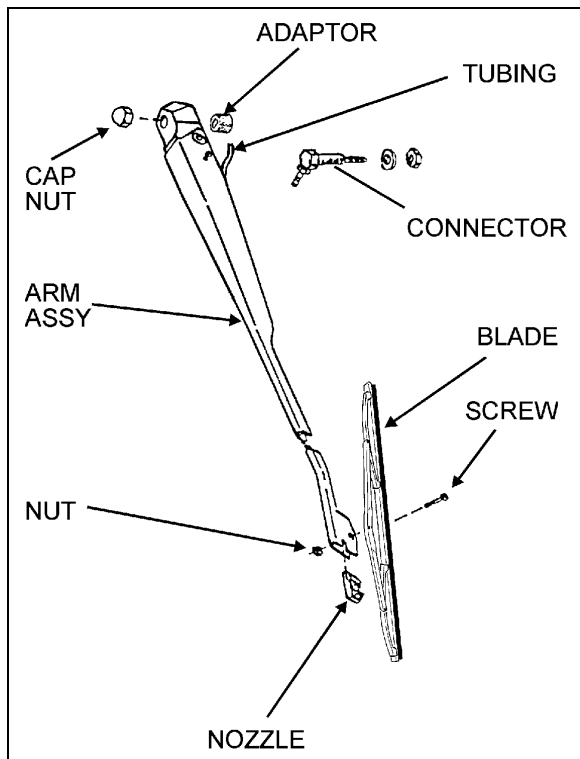

FIGURE 42: UPPER WINDSHIELD WIPER 23087
2. Adjust rods length (Fig. 42).